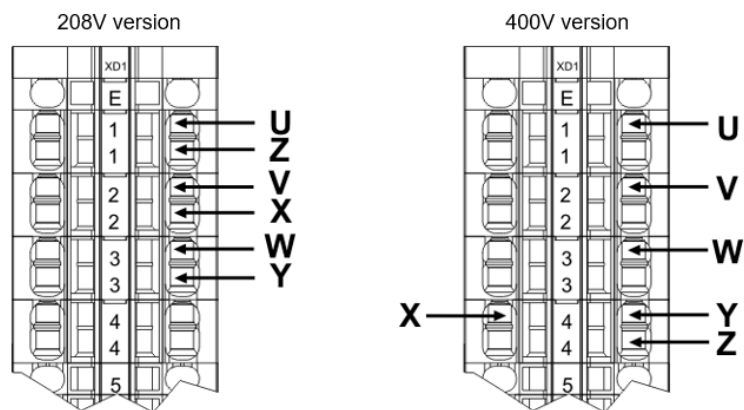

Figure 26. Wiring configurations for different voltages
2. Reposition the wires in the wire terminal as shown in Figure 26. Use a flat bladed screwdriver to release the spring clamp terminals and remove the ferruled wire. Push the ferruled wire into the new location, using a flat bladed screwdriver to release the terminal first.